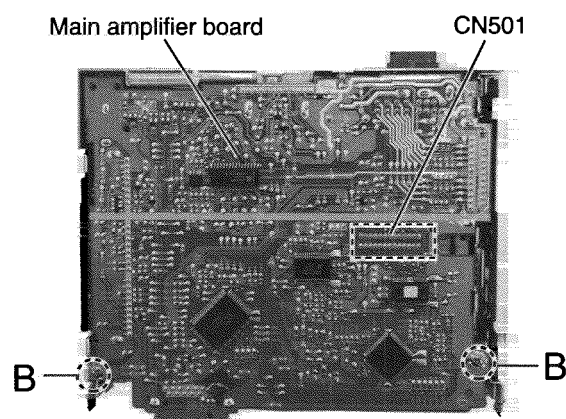

Fig. 5
(See Fig.5 and 6)**
- The main amplifier board (Refer to Fig.5 and 6)